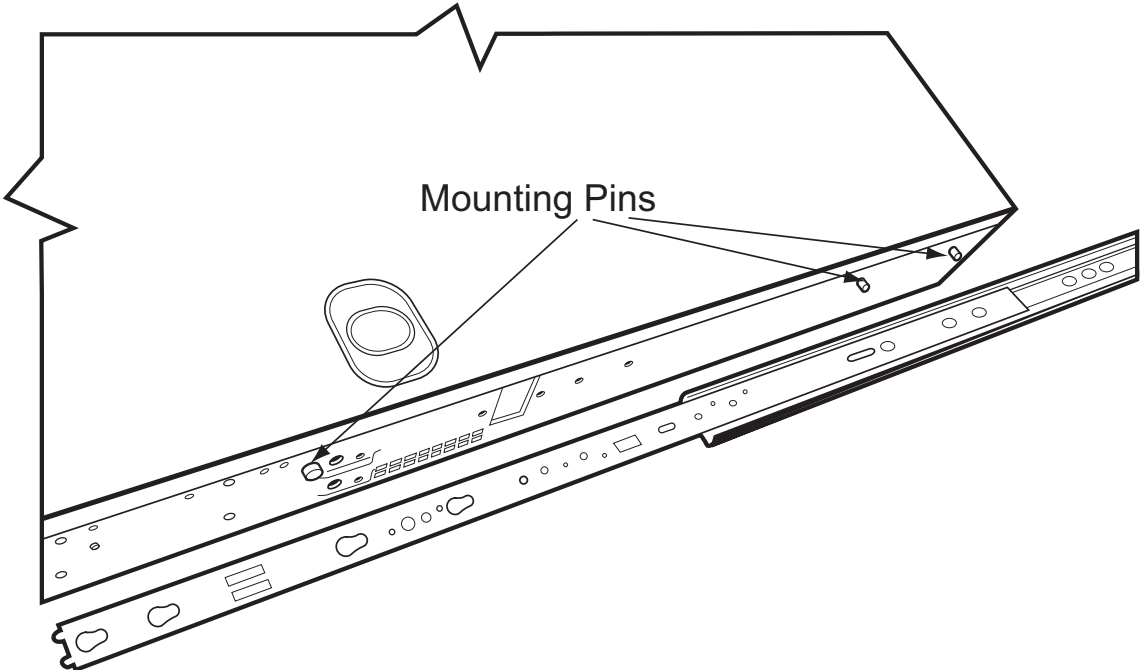
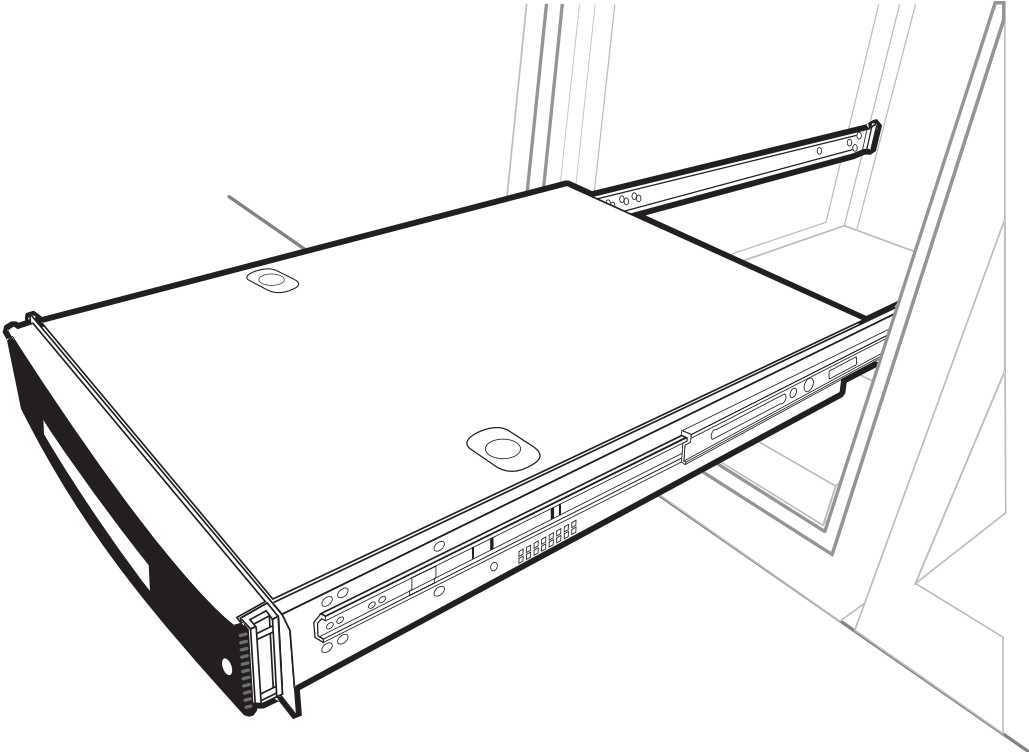

Figure 2.5 Attaching Sliding Rails to the 7800-CTRL Mounting Pins
Figure 2.6 7800-CTRL Installed on Slider Rails in the Fully Extended Position
4. Attach the 7800-CTRL to the rails. See figure 2.5 on page 17 and figure 2.6 on page 17.